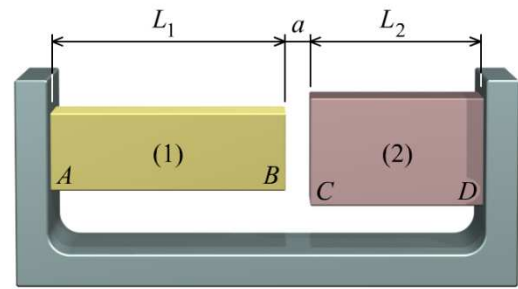

FIGURE P2.19
P2.19 At a temperature of 60°F, a gap of $a = 0.125$ in. exists between the two polymer bars shown in Figure P2.19. Bar (1) has a length of $L_1 = 40$ in. and a coefficient of thermal expansion of $\alpha_1 = 47 \times 10^{-6}/^\circ\text{F}$. Bar (2) has a length of $L_2 = 24$ in. and a coefficient of thermal expansion of $\alpha_2 = 66 \times 10^{-6}/^\circ\text{F}$, respectively. The supports at A and D are rigid. What is the lowest temperature at which the gap is closed?